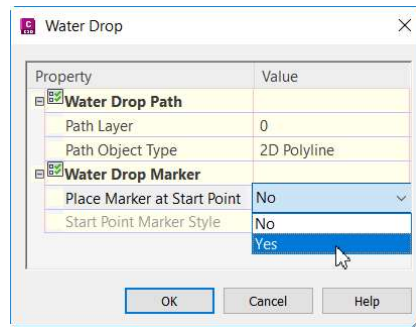

Figure 4-48 The **Yes** option selected in the **Place Marker at Start Point** drop-down list
6. In the **Water Drop** dialog box, click in the **Value** field corresponding to the **Place Marker at Start Point** property; a drop-down list is displayed. Select the **Yes** option from the drop-down list, refer to Figure 4-48.